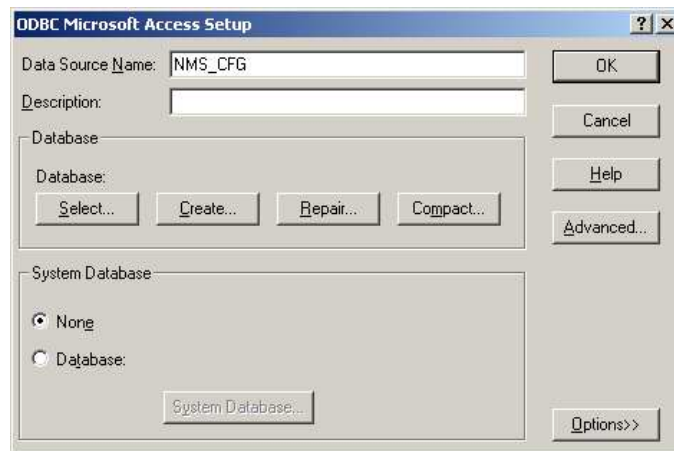

Figure 2-8. ODBC Microsoft Access Setup Window
- Highlight 'Microsoft Access Driver (*.mdb)' and click 'Finish'. The 'ODBC Microsoft Access Setup' window will appear (Figure 2-8).
- Type 'NMS_CFG' in the 'Data Source Name' field, as shown in Figure 2-8.